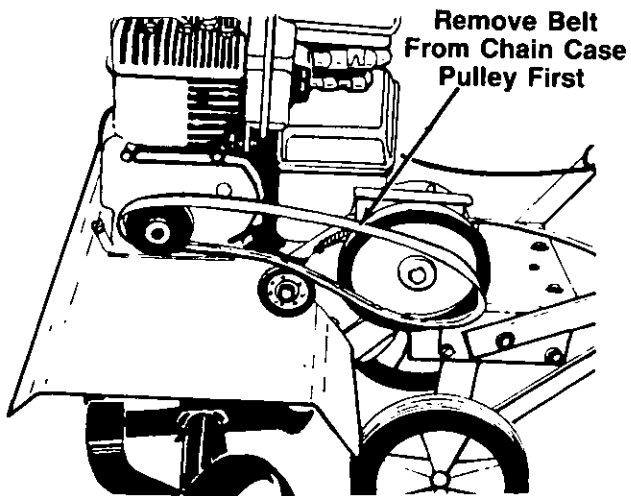

FIGURE 30.
3. Slip the belt off the chain case pulley first, then off idler pulley. Remove belt from engine pulley. See figure 30.